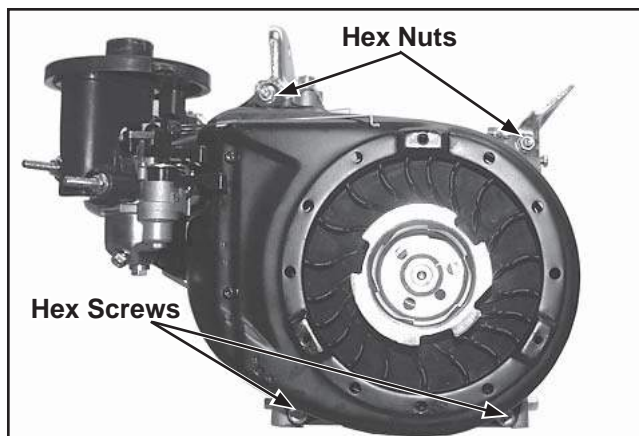

Figure 11-71. Installing Blower Housing.
2. Install the blower housing on the crankcase with two hex flange nuts and two hex flange screws. Torque nuts to  $8 \text{ N}\cdot\text{m}$  ( $71 \text{ in. lb.}$ ) and screws to  $10 \text{ N}\cdot\text{m}$  ( $89 \text{ in. lb.}$ ). See Figure 11-71.